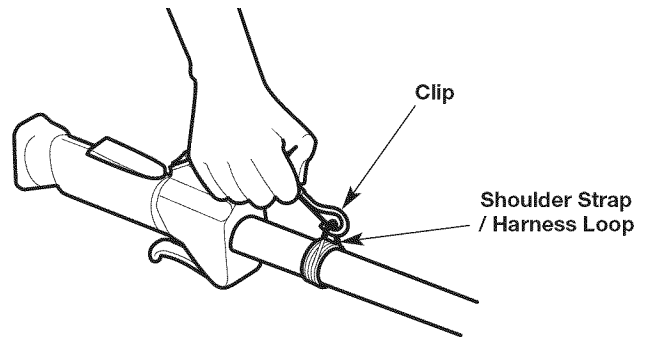

Fig. 4
5. Snap the clip onto the shoulder strap / harness loop (Fig. 4).